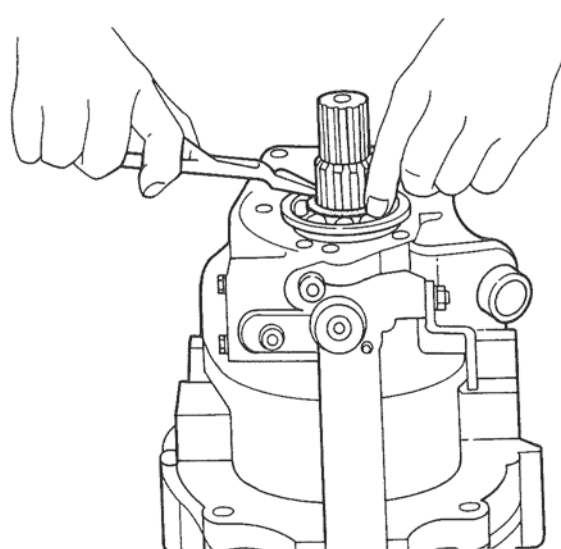

Figure 12. Removing Snap Ring.
12. If necessary to disassemble forward and reverse section of transmission, remove the snap ring from output shaft assembly behind bearing. Figure 12.